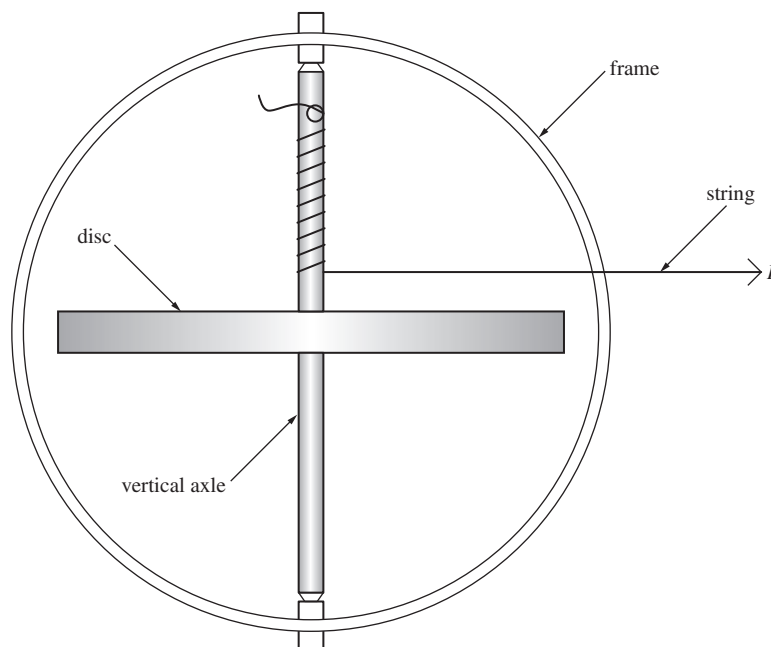

Figure 5
- 5 **Figure 5** shows a small gyroscope. A heavy disc is mounted on an axle which is supported by a rigid circular frame. A length of string is wrapped around the axle and is pulled with a constant force, accelerating the disc until the string is completely unwrapped and falls away from the axle. With the disc rotating at high speed the properties of a gyroscope can be demonstrated.